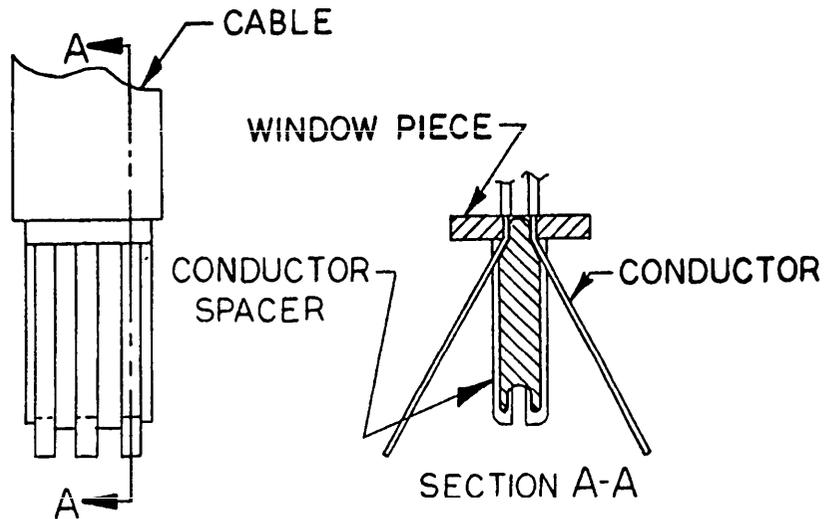

FIGURE 3. Conductor spacer installation.
- C. Separate conductors of one cable from those of the other cable and insert the conductor spacer into the window piece. See Figure 3 (Conductor Spacer Installation).